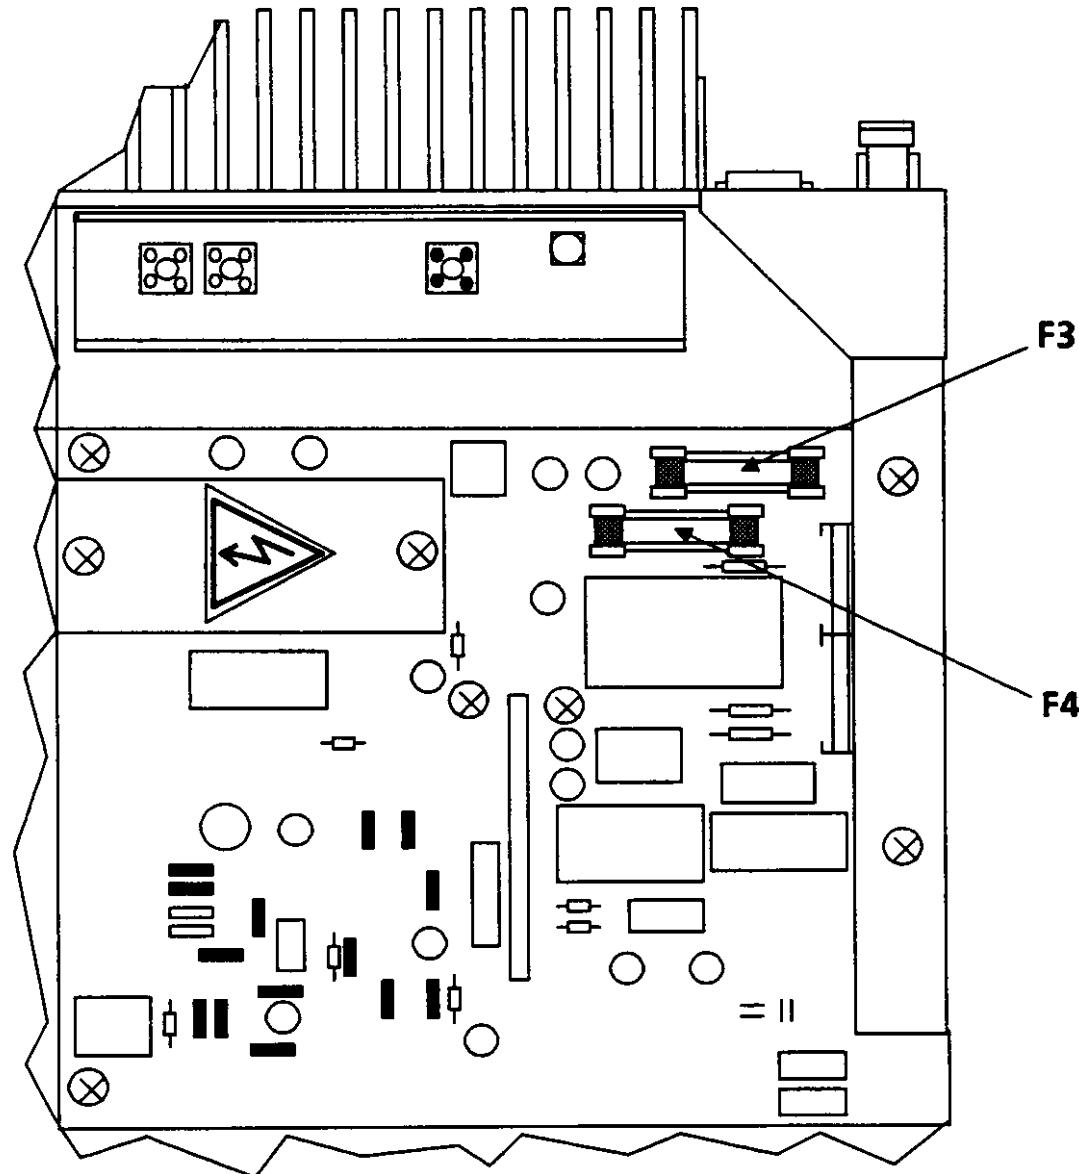

Fig. 4.2 Replacement of Internal Fuses (Option IN 251A)
1. Disconnect mains and battery cables from VHF Transceiver XU 221. holders acc. to Fig. 4.2 by means of screw driver and replace.
3. Ease fuses F3 and F4 carefully out of their holders acc. to Fig. 4.2 by means of screw driver and replace.